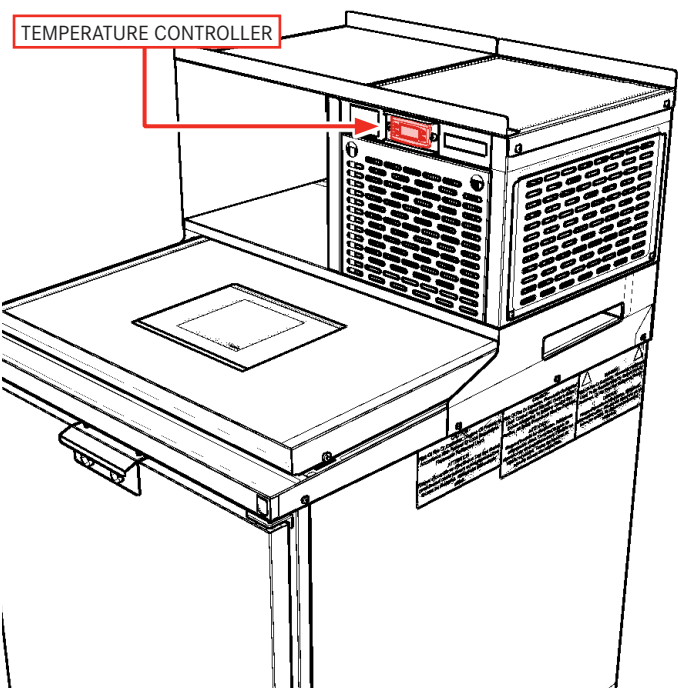

Fig. 17
1. Locate temperature controller, above front louvered access panel (Fig. 17).